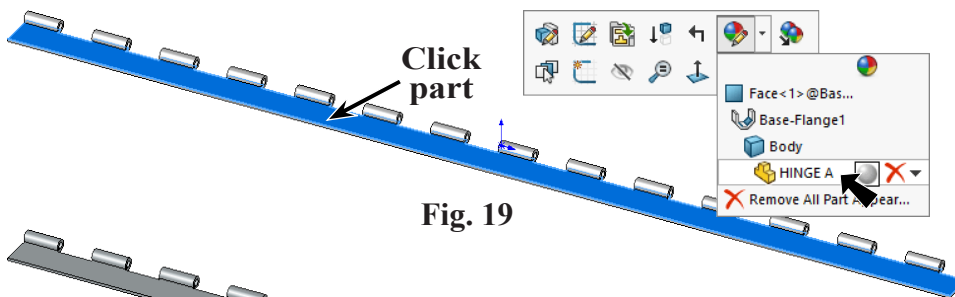

Fig. 19
Step 2. Click part to select, click **Appearance Callout**  on the context toolbar and click **HINGE A...** , **Fig. 19**.